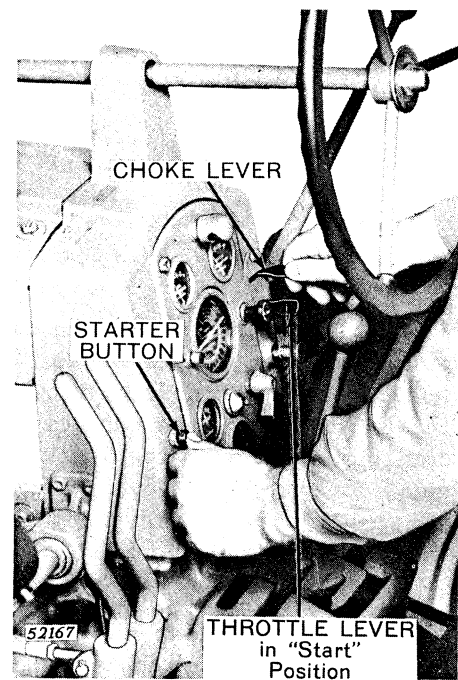

Figure 10-10-2—Operating the Choke Lever and Starter Button
- (4) Hold choke lever to the left. The cranking engine will not continue to run with the choke in this position; therefore, when engine starts, release the choke lever. It is not always necessary to choke the engine.
- (5) Push starter button to operate the cranking engine motor. Release button when engine begins to run (Figure 10-10-2).